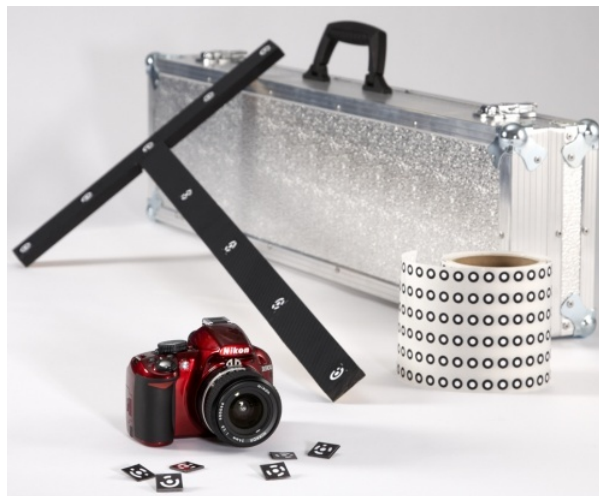

Figure 48: *Scan Reference* kit
2. Place the cross (Figure 48) on the scene, ensuring that it rests firmly, and it is seen from most points of view. Also double check that all targets on the cross are clearly visible.
This synergy of technologies is possible thanks to Artec 3D-scanner and photogrammetry solutions. Several third-party photogrammetry offerings are available on the market. *Scan Reference* photogrammetry is one example. The *Scan Reference* kit includes hardware and software (see Figure 48), a digital camera, a reference-scale cross, non-coded sticky *targets* (which Artec Studio uses to match the captured 3D data to the photogrammetric measurements), and reusable magnetic coded targets (required to automatically carry out measurements in the *Scan Reference* software).